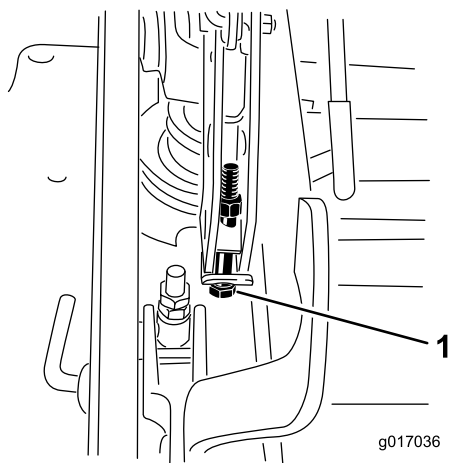

Figure 92
- If the deck is too low, tighten the single point adjustment bolt by rotating it clockwise. If the deck is too high, loosen the single point adjustment bolt by rotating it counterclockwise (Figure 92).